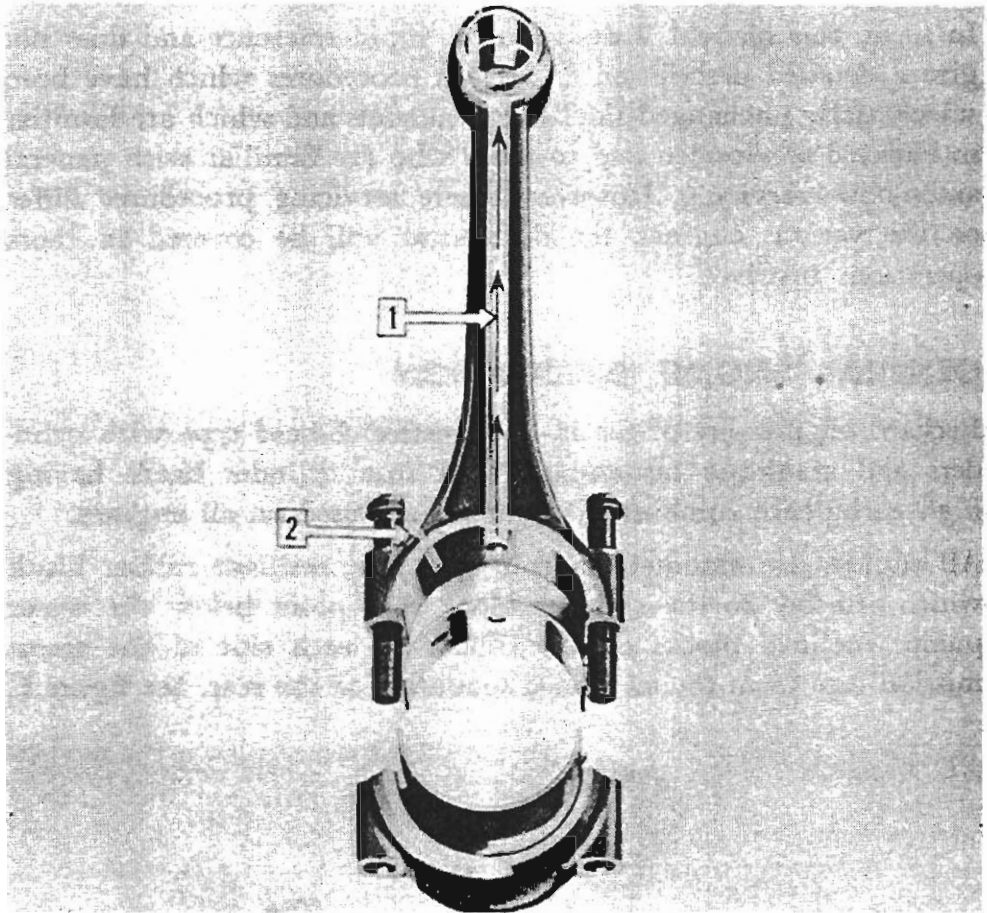

Fig. 3—Exploded View of Connecting Rod and Bearing Assembly. Note the Drilled Oil Passages.
Steel forged connecting rods on all models have rifle-drilled passages (1, figure 3) to provide pressure lubrication for the piston pin bushings. All connecting rods are fitted with steel-backed, babbitt-lined precision type bearing shells which bear on the crankshaft and with bronze bushings in which the piston pins float. Connecting rod bearings are not adjustable. A small oil hole (2) is located in the lower end of the connecting rod and the stream of oil from this hole provides spray lubrication for the piston.